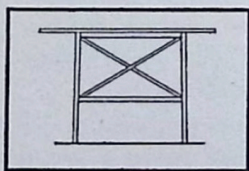
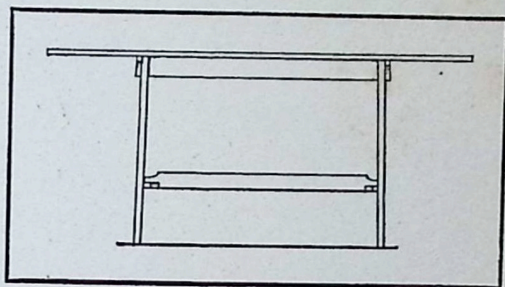

FIG. 76.
FIG. 77.
joints, and without excess of material. I think that the accompanying figure (76) shows how this may be done, as far as regards a push across the table, in a way that is simple and shapely. To resist an endways push we must adopt other devices. The very strongest and lightest would be the cross-bracing shown in Fig. 76, but it is not pretty; and, with a little pains and attention to the exact shape of the parts, we can make the arrangement shown by Figs. 77, 78